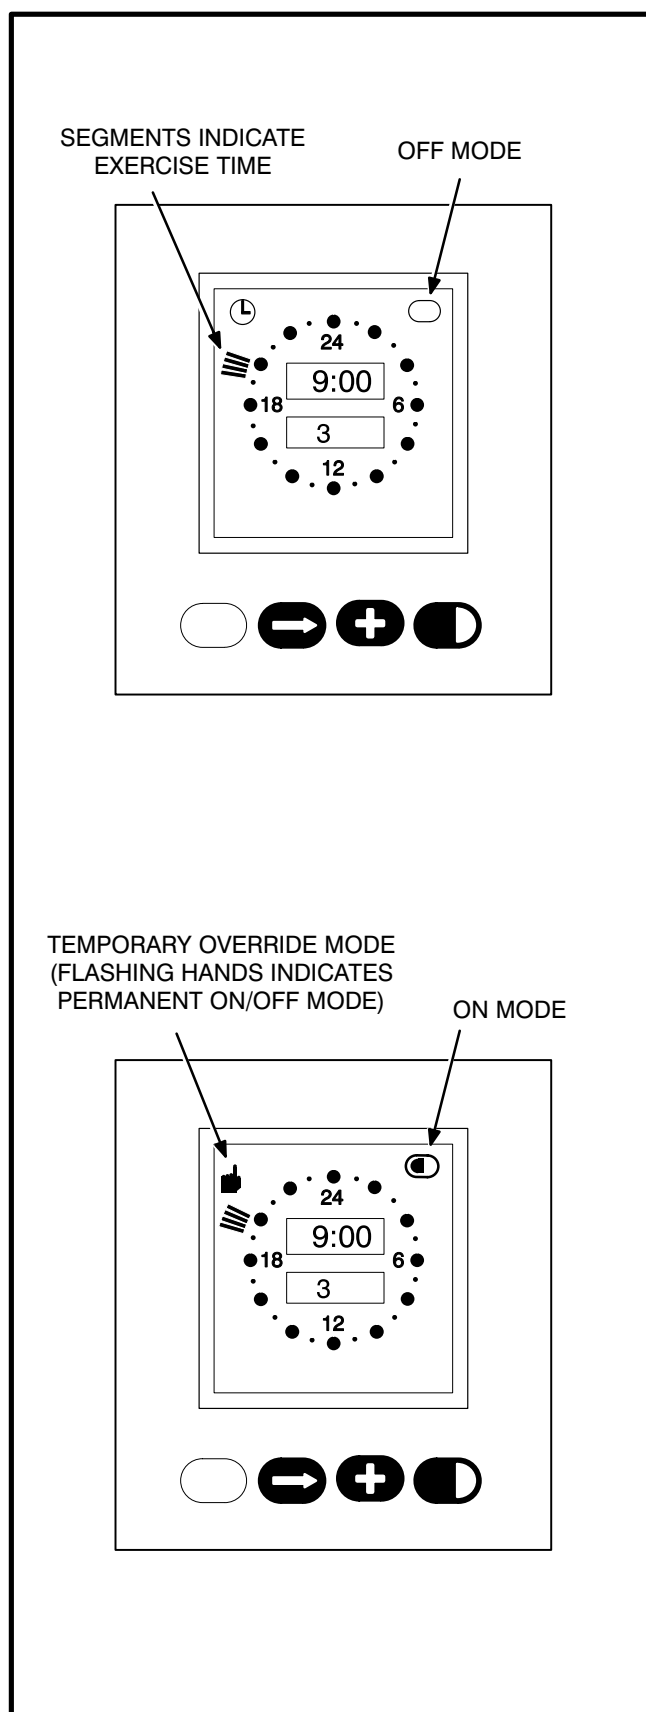

FIGURE 4-8. EXERCISER CLOCK ON/OFF MODE
- Press the plus (+) button to increment the **Start** time of the exercise program. The display will show midnight (0:00). Note that by holding the (+) button down, the minutes will increment in 15 minute intervals. When the **Start** time is reached, press the set (**⏻**) button (On Mode is indicated, Figure 4-8).
Then increment the time with the plus (+) button to the desired **Stop** time. When the **Stop** time is reached, press the set (**⏻**) button (Off Mode is indicated, Figure 4-8).
Note that the exercise time is indicated by a band of segments illuminated around the outer ring of the clock from the start to the stop time (Figure 4-8).
During the exercise period, the ON mode is indicated in the ellipse in the upper right corner of the display (Figure 4-8).
With the normal source connected and available, pressing the set (**■**) button once will initiate a test sequence. A hand will be displayed in the upper left corner of the display and the On mode will be indicated inside the ellipse in upper right corner of the display (Figure 4-8). Pressing the set (**■**) button again will stop the test and the ellipse will indicate the OFF mode.
hand will appear in the upper left corner of the display (Figure 4-8). The current program will be overridden and the clock will automatically set for the next program. Momentarily pressing the set (**■**) button again will return to the current program.
Holding the set (**■**) button down until a *flashing hand appears* in the upper left corner of the display initiates the permanent On/Off mode (Figure 4-8). The On mode is indicated by a continuous band of segments illuminated around the clock. The Off mode is indicated by all of the segments around the clock being off. Pressing the set (**■**) button momentarily toggles between the permanent On and permanent Off modes. Holding the set (**■**) button down until the clock symbol returns to the upper left corner of the display, ends the continuous On/Off mode and returns to the normal program mode.